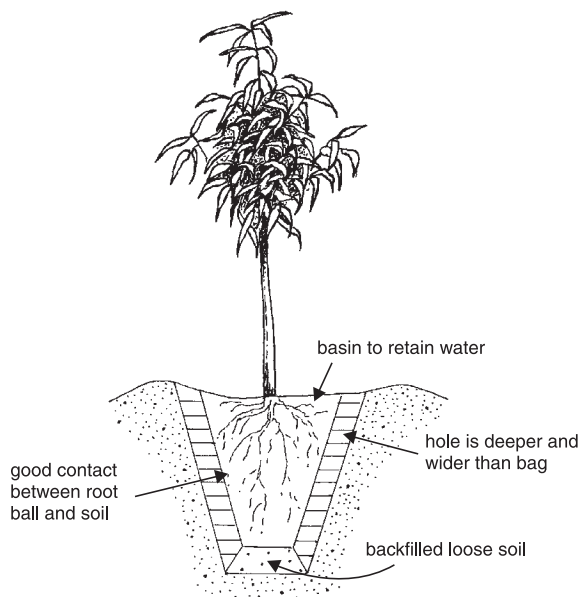

Figure 9. A correctly planted tree
5. Mulch trees with a coarse mulch such as cereal or legume stubble 10 to 15 cm deep. Keep the mulch 10 cm away from the trunk to avoid collar rot. Figure 9 shows a correctly planted tree.